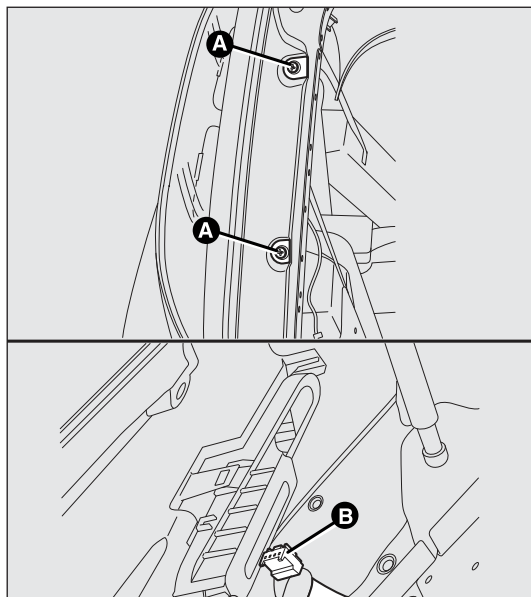

fig. 174
The rear light clusters contain taillight, brake light and direction indicator bulbs. The bulbs are arranged inside the light cluster fig. 174 as follows:
- undo both fastening bolts A-fig 174;